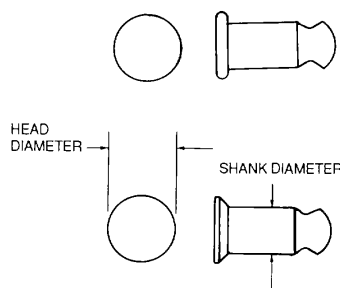

Figure 2-54. Hi-Shear Rivets
h. Hi-Shear Rivets. Hi-shear (pin) rivets, as shown in figure 2-54, are essentially threadless bolts which are inserted like rivets. Each rivet consists of two parts a stud and a collar. The stud is made of 4130 alloy steel, or equivalent, heat-treated to 125,000 to 150,000 psi, and cadmium-plated. The collar is anodized 2117-T4 aluminum alloy. The installed rivet can be readily identified by the presence of the attached collar rather than the ordinary formed head of the standard rivets. Use Hi-shear rivets in shear applications only. As the shear strength of the steel is considerably greater than either the shear bearing strength of aluminum alloys, these special rivets are used to advantage only in the thicker sheet gauges. Never use Hi-shear rivets where the grip length is less than the shank diameter (3/16-inch for smallest available rivet). Use the 100-degree countersunk type where flush surfaces are desired. Hi-shear rivets may be replaced with close tolerance bolts of the same material, strength and diameter, where absolutely necessary. Use flush-headed bolts for flush-headed rivets and protruding head bolts for protruding head rivets. The bolt thread must not extend into the material.